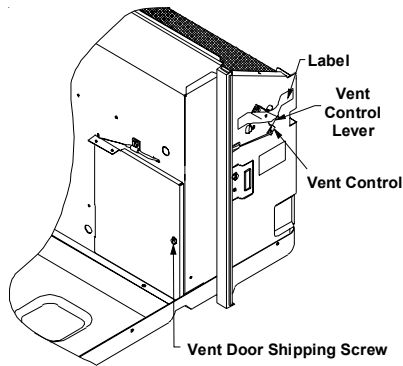

Figure 2
2. Remove the label (if present) from over the vent control lever on the left side of the chassis as shown in Figure 2.